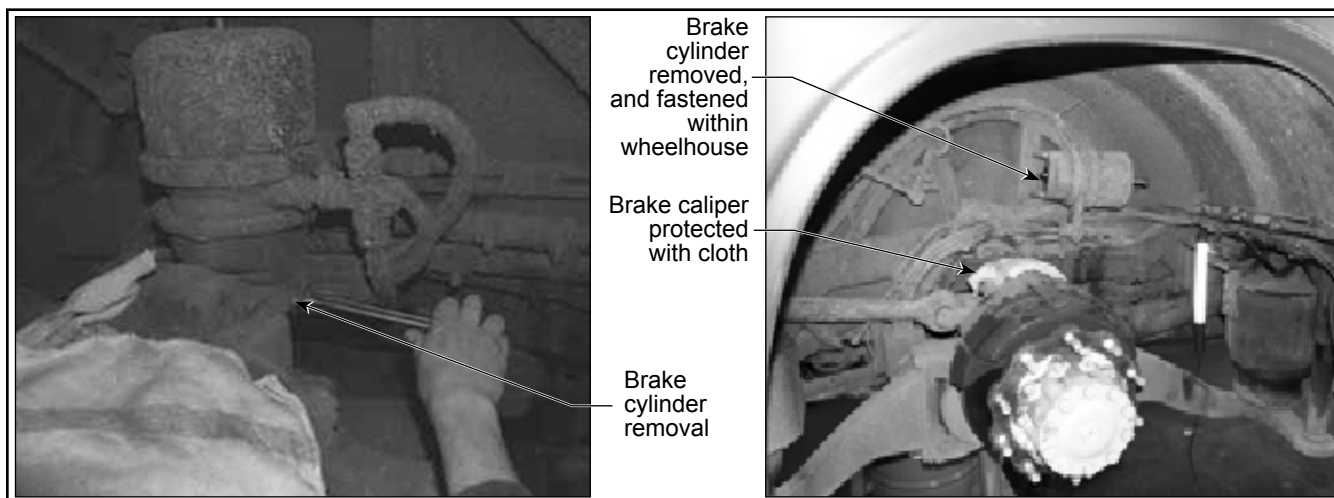

Figure 4 - Brake Cylinder Removal
2.16. Loosen the screws on the brake cylinder and remove the brake cylinder carrier plate. Loosen the locknuts and remove the brake cylinder. See Figure 4.
2.17. Fix the brake cylinder within the wheelhouse with a tie-wrap, wire, or rope, and cover its opening. Protect the mounting face of the brake caliper with an adequate cover or cloth. See Figure 4.